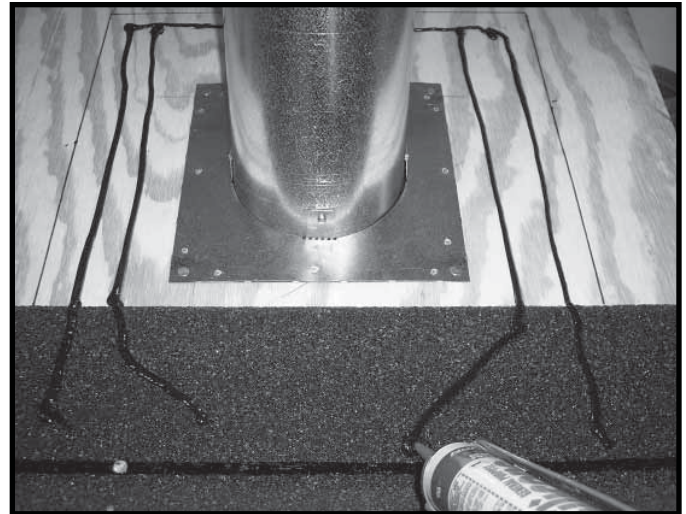

Figure 10.20 Apply Sealant
- Apply silicone sealant to roof inside the lines (Figure 10.20).